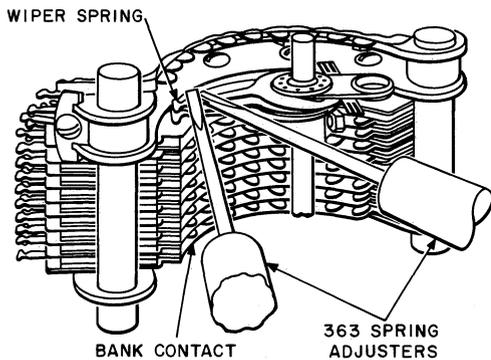

Fig. 11 — Method of Adjusting Wiper Springs
(3) If the position of the wiper tips on the bank contacts or the separation between the wiper tips is not satisfactory, adjust the tips of the springs with the spring adjusters as shown in Fig. 11.